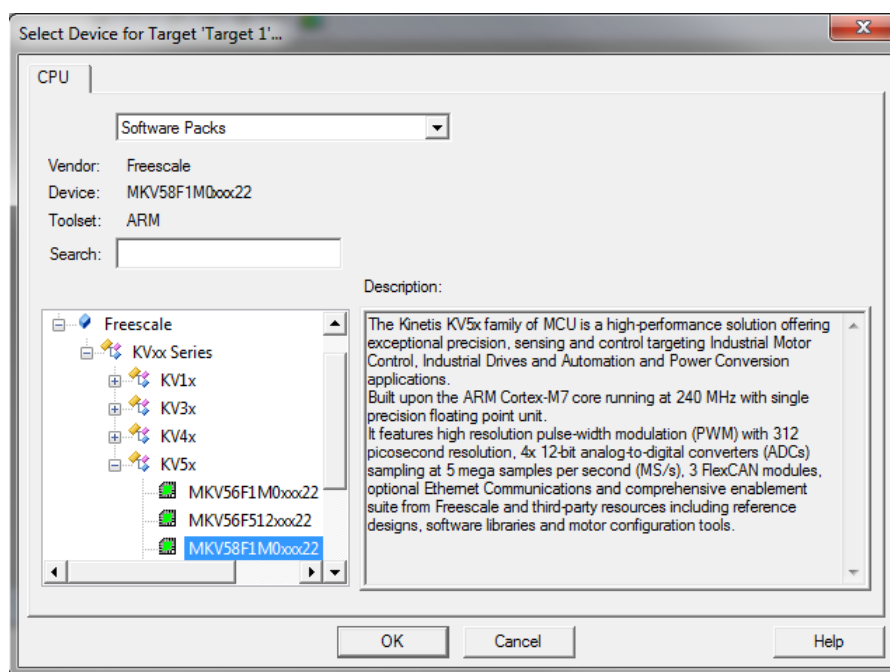

Figure 1-29. Select Device dialog
7. Click the MKV58F1M0xxx22 node, and then click OK. See Figure 1-29.